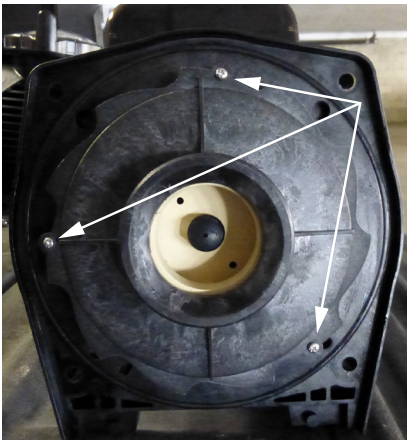

Figure 2. Diffuser Plate Separation, Screw Location
5. Using a Phillips screwdriver, remove the three screws holding the diffuser to the flange/seal plate, freeing the diffuser for removal. See **Figure 2**.